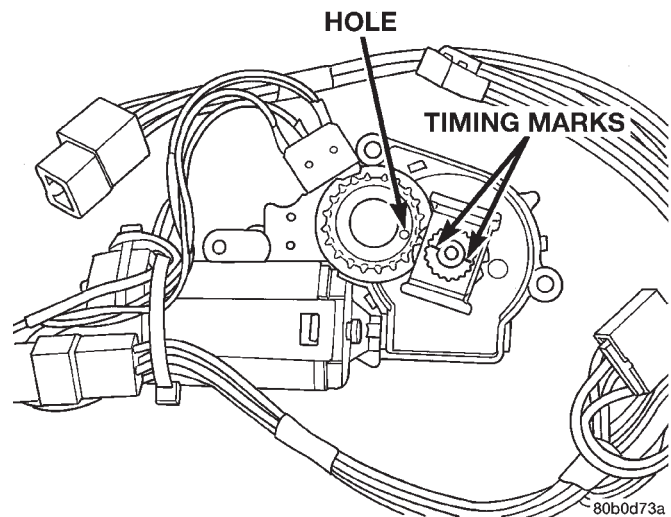

Fig. 3 Sunroof Drive Motor Timing
- (1) Before installing a new motor or the original motor ensure that the motor and module are timed to the closed position.
- (2) Ensure that sunroof is in the **FULLY** closed position before mounting the motor. If necessary, move the sunroof glass to the fully closed position by hand with the motor disconnected from the sunroof housing.
- (3) To time the drive motor connect all wire connectors to the express module. Run motor in the close position till the hole in the gear aligns with the Timing Marks shown in (Fig. 3).
- (4) Place drive motor into position on the sunroof housing and install attaching screws.
- (5) Set headliner into position.
- (6) Connect express module, drive motor, and control switch wire connectors.
- (7) Test sunroof operation, adjust as necessary.
- (8) Finish installing the headliner.
- (9) Install sunroof opening trim lace. Refer to Sunroof Opening Trim Lace.
- (10) Connect the control switch wire connector.
- (11) Install A-pillar trim, sun visors, and map lamps/mini console.
- (12) Install glass panel. Verify glass position in opening.